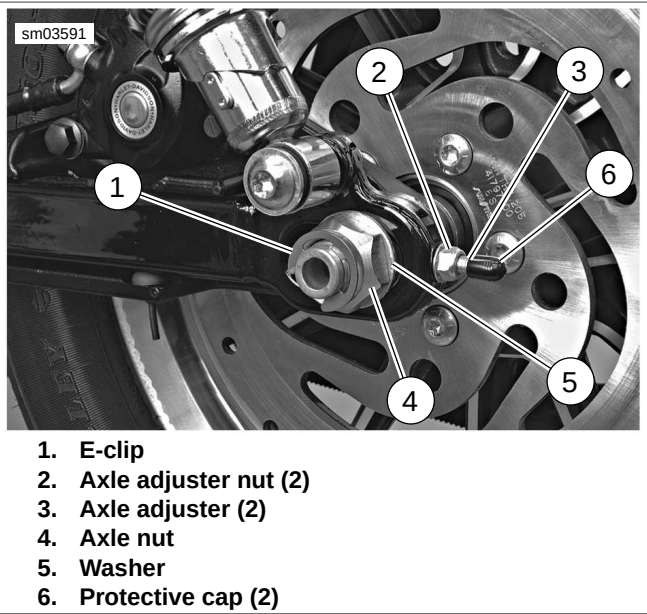

Figure 1-58. Secondary Drive Belt Adjustment (typical; XL model shown)
2. See Figure 1-58. Remove e-clip (1) and loosen rear axle nut (4). Turn axle adjuster nuts (2) on each side of rear fork clockwise to decrease belt deflection (increase tension), or counterclockwise to increase belt deflection (decrease tension). Turn both adjuster nuts the same number of turns in order to maintain approximate alignment of rear wheel.
1. See Figure 1-58. Remove and discard e-clip (1).
2. Loosen rear axle nut (4).
3. On side of rear fork that has longer distance from pivot bolt to axle center, turn nut (2) on axle adjuster (3) counterclockwise to shorten distance. Adjust axle until left and right side alignment measurements are equal.